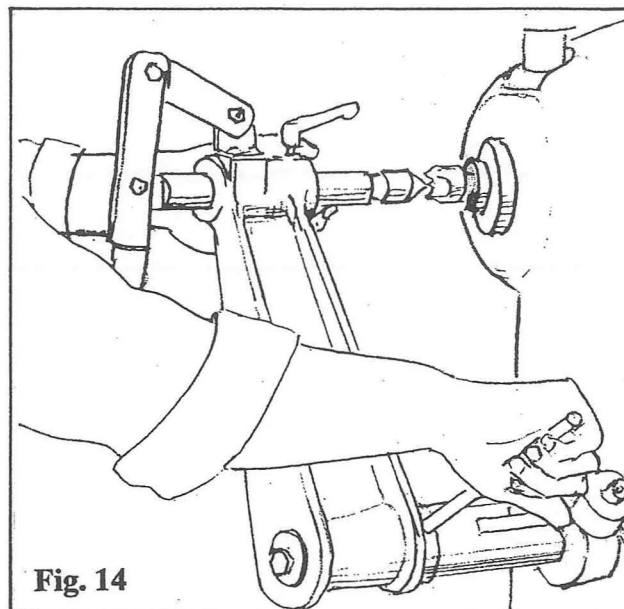

Fig. 14
23. Whilst supporting the *Tailstock Body Casting*, use a tommy bar to rotate the *Taper Block*. This has the effect of raising or lowering the tail centre. A combination of *Taper Block* rotation and manual pivoting of the *Tailstock Body Casting* will enable the points of the tail and drive centres to be aligned precisely. (Fig. 14)